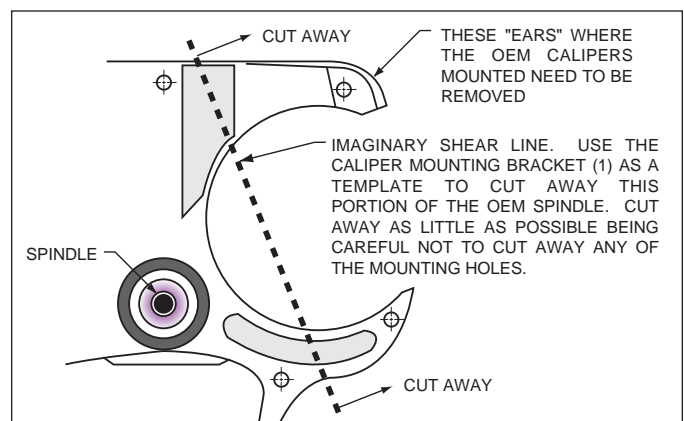

Figure 2. Stock Spindle Modifications
The "ears" that protrude to form a "C" shape on the stock spindle need to be removed (figure 2) to facilitate the installation of the Wilwood caliper (13). Using the caliper mounting bracket (1) as a template, mark two cut marks on the steering arm. Remove as little as necessary from the "C" shape, being careful not to cut away any of the mounting holes required to bolt on the caliper mounting bracket (1).